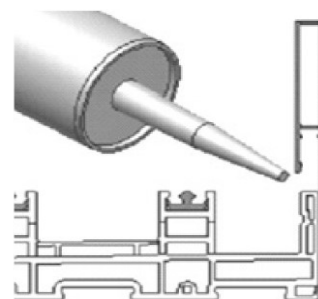
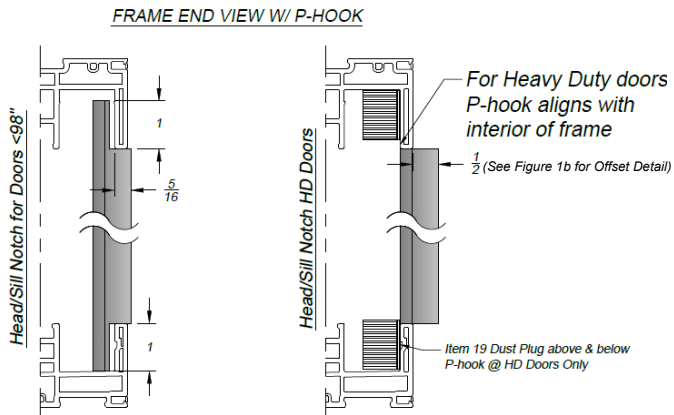
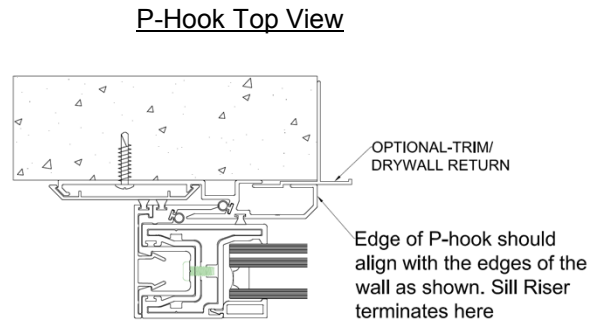

Figure 16
Figure 18a
Figure 18b
1. Locate the frame sill (Item 1) and the sill track inserts (Item 3; Figure 16). Set the assembly on a flat, supported surface and install track inserts by sliding them in through the ends of the frame sill.
7. By-pass doors, skip to Step 9; Pocket Doors Only: Seal under entire length of P-hook (Item 16) and position it on the wall at the pocket opening aligning the notches with the frame head and sill (Figure 18a). The edge of the P-hook should align with the edge of the wall (Figure 18b).
8. The sill riser will require trimming in order to butt up against the P-hook (Figure 18b). Line the sill riser up with the frame sill and apply a small bead of sealant to the top of the sill (Figure 16). Secure the sill riser into place with a rubber mallet, ensuring it snaps into place.